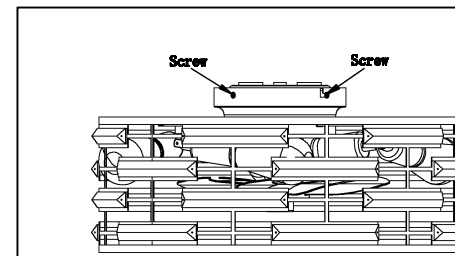

Fig4
2. After connecting the wires, install the fan host and the hanger tray together. There are 4 screw holes on the hanger tray and 4 mounting holes on the fan host, the screw need install and tighten, cannot loose. (Fig4)